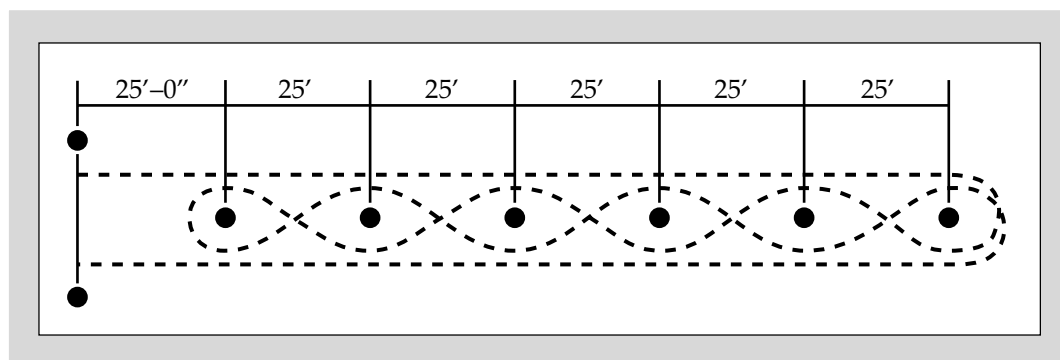

Figure 6. Driving Pole Bending Race.
Driving Pole Bending Race (see Figure 6)
Course: Six (6) markers placed in a straight line, spaced 25 feet apart with the start–finish line 25 feet in front of the first marker (see Figure 6).